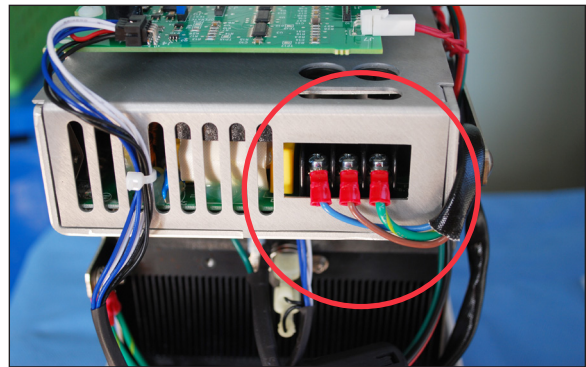

Figure 105 - Step 6 Connect power supply
6. Connect the power supply to the three wires that come from the power inlet (Figure 105).